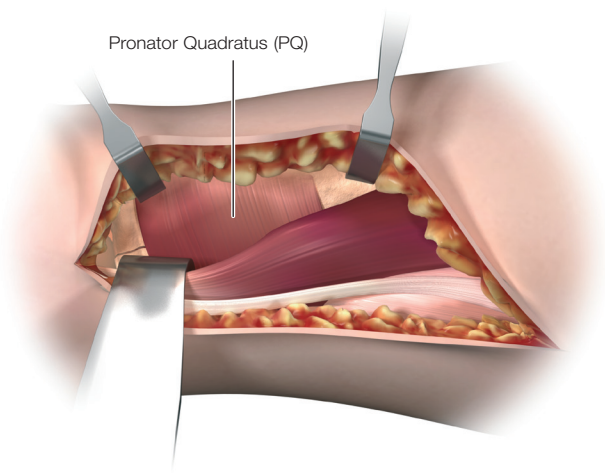

Figure 4
Develop widely the subtendinous space of parona and expose the pronator quadratus muscle (PQ). (Figure 4)